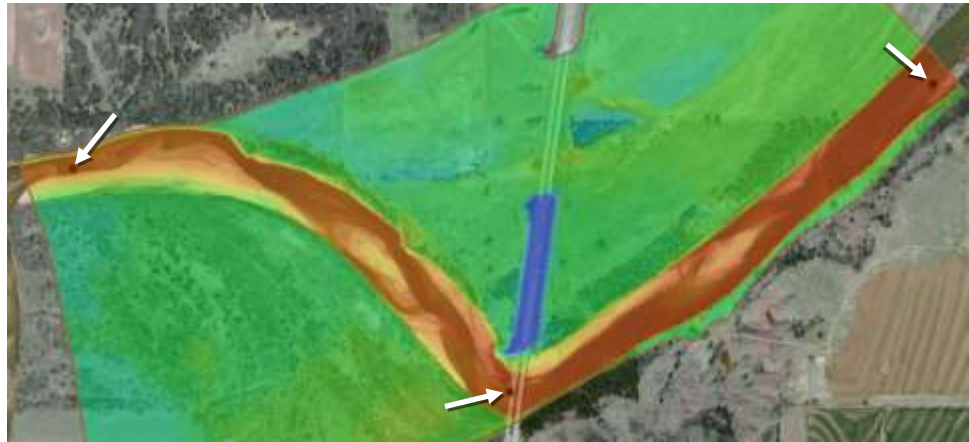

Figure 7 Monitor points at upstream, midway between, and downstream
- Using the **Create Feature Point** tool, create three points as in Figure 7.